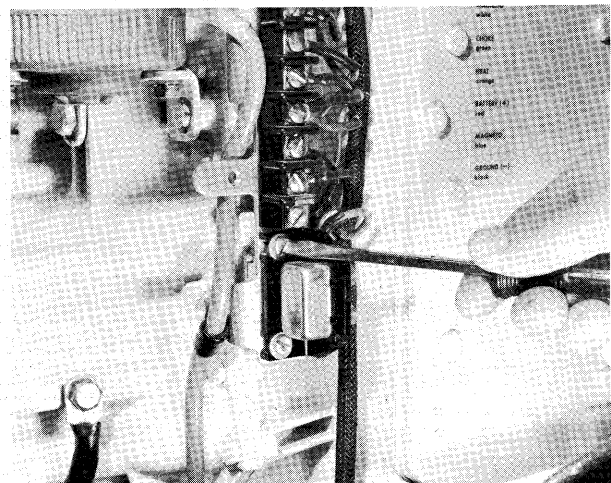

Figure 6 - Removing Circuit Breaker
- B. Loosen two (2) screws and plain washers, securing circuit breaker bracket to terminal block bracket and remove circuit breaker with bracket as shown in figure 6.